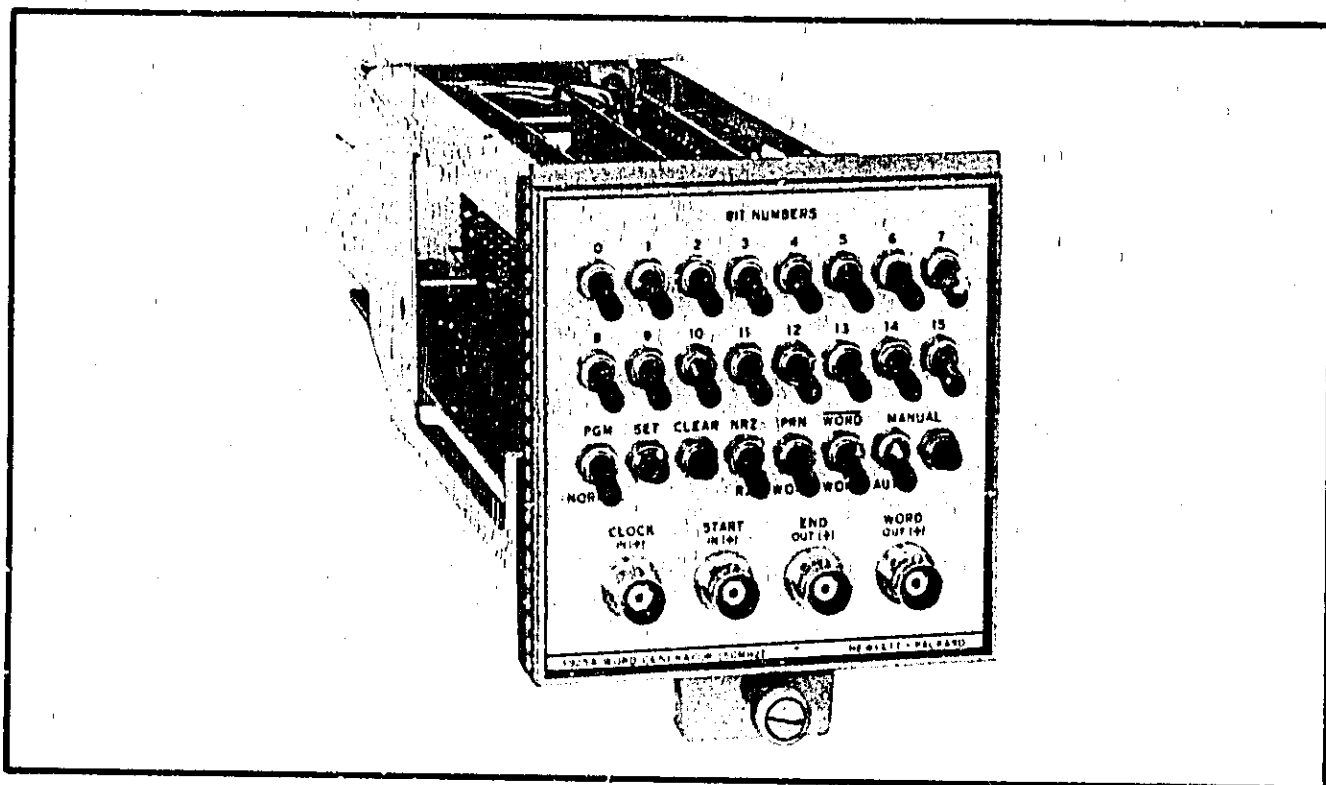

Figure 1-1. Model 1925A Word Generator
1-2. The HP Model 1925A Word Generator, shown in Figure 1-1, is a digital bit-generating plug-in unit designed for use in the 1900-series mainframe. The Model 1925A Word Generator (hereafter referred to as the Model 1925A) generates a variable length, dc-to-50 MHz, digital word. A word is a series of bits which are serially transmitted during a preset period of time. The bits are arranged in specific formats. Operating modes that are available are return-to-zero (RZ) or non-return-to-zero (NRZ) format, complementary output, command or automatic word recycling, and electronic programing. In addition, a long pseudo-random sequence (32 767 bits) is provided for testing communications channels and LSI memories. The internal register may be set or cleared from the front panel to establish reference levels and sequences. Emitter-coupled integrated circuits are used in the Model 1925A. The digital word is generated from either the front-panel switches or from an external program source. The digital word is generated by first loading it (in parallel) into an open-end shift register. The word is then serially transferred from the register in synchronism with the clock input. The shift register output is controlled to produce the desired modes of operation.